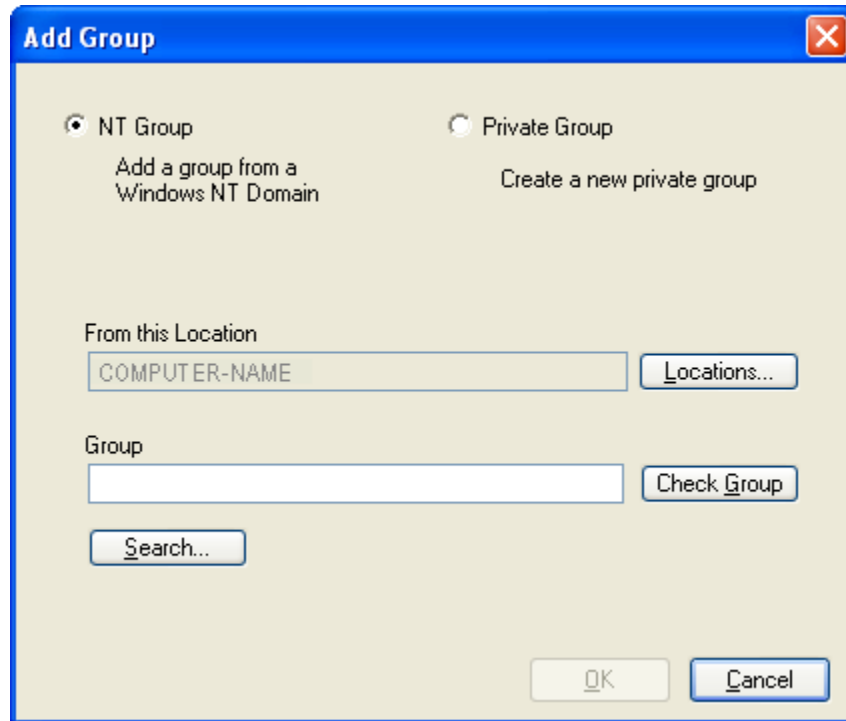

Figure 47 - Add Group Window (NT)
2. The **Add Group** window (Figure 47) appears. The **NT Group** option button is selected by default. This will allow the addition of an NT group from a Windows NT Domain.
2. The **Add Group** window (Figure 47) appears.